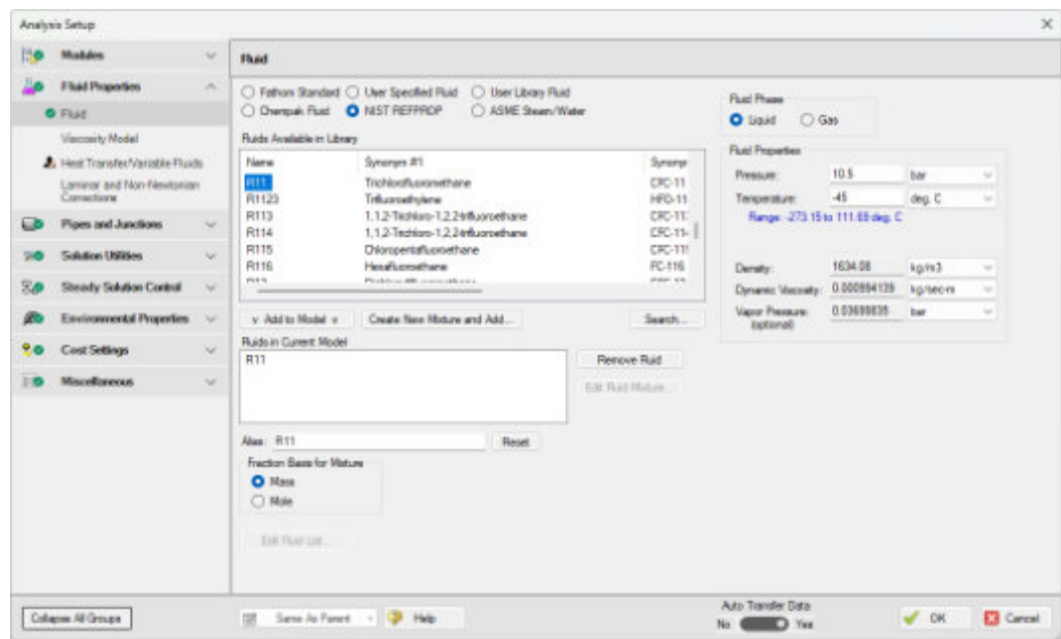

Figure 4.1 Fluid panel with R11 selected and fluid pressure and temperature specified
4. In the Fluid Properties section on the right, enter 10.5 barG for pressure and -45 deg. C for temperature (see Figure 4.1). Default fluid properties are automatically calculated. The Solver adjusts the fluid properties during the simulation when modeling heat transfer.